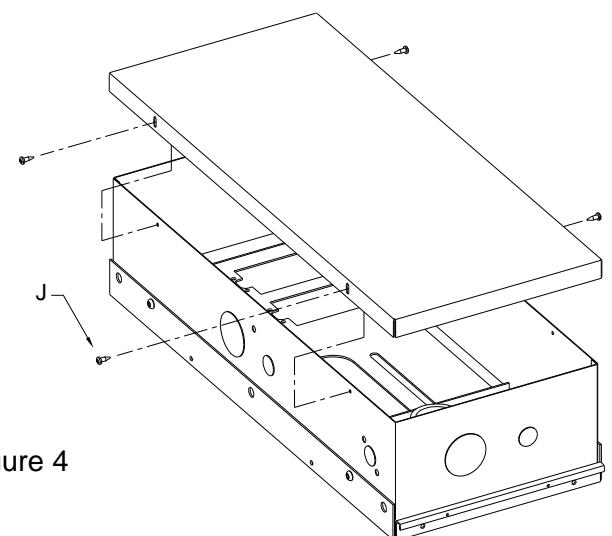

Figure 4
8. Attach the Top to the Plenum Cover. See Figure 4